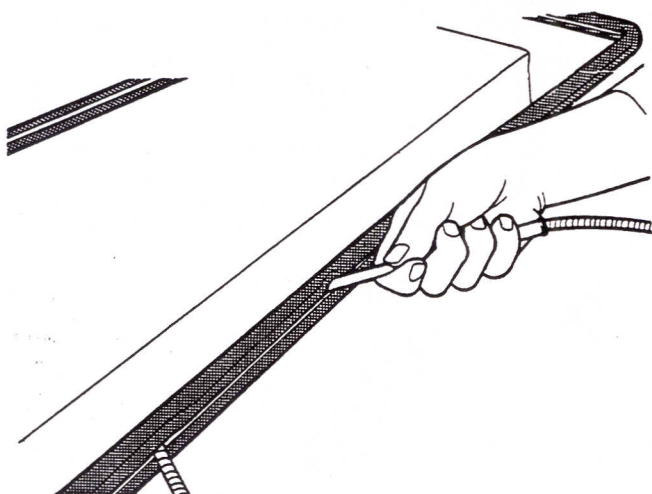

Figure 2
2. Using a piece of bundy tubing (or similar) approx $\frac{1}{4}$ " (6mm) inside diameter, feed a suitable length of cord (approx $\frac{1}{8}$ " (3mm) dia) into the weatherseal. See Figure 2.